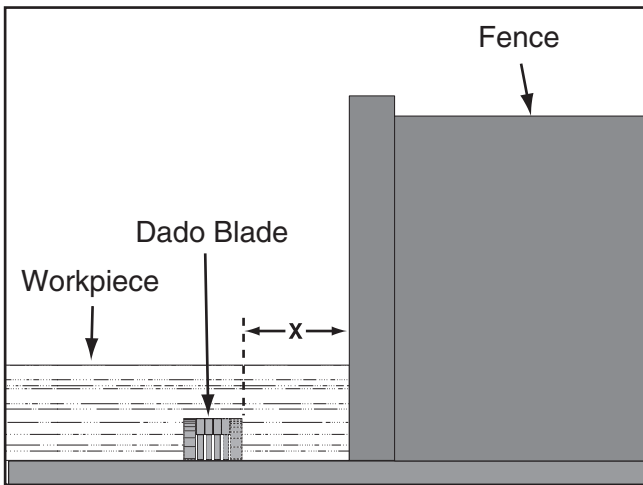

Figure 47. Stacked or wobble dado cut.
7. Adjust the distance between the fence and the inside edge of the blade as shown in **Figure 47** to dado the length of a workpiece.